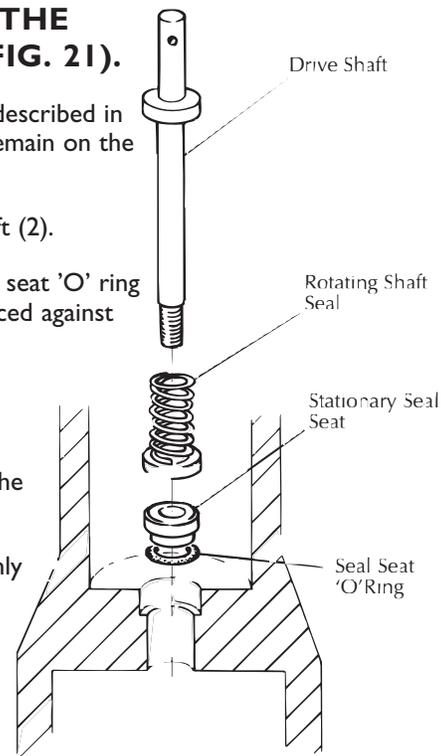

Fig.21 Replacing the Mechanical Shaft Seal of the Laboratory In-Line Mixing Assembly
6.7 REPLACING THE MECHANICAL SHAFT SEAL OF THE LABORATORY IN-LINE MIXING ASSEMBLY (SEE FIG. 21).